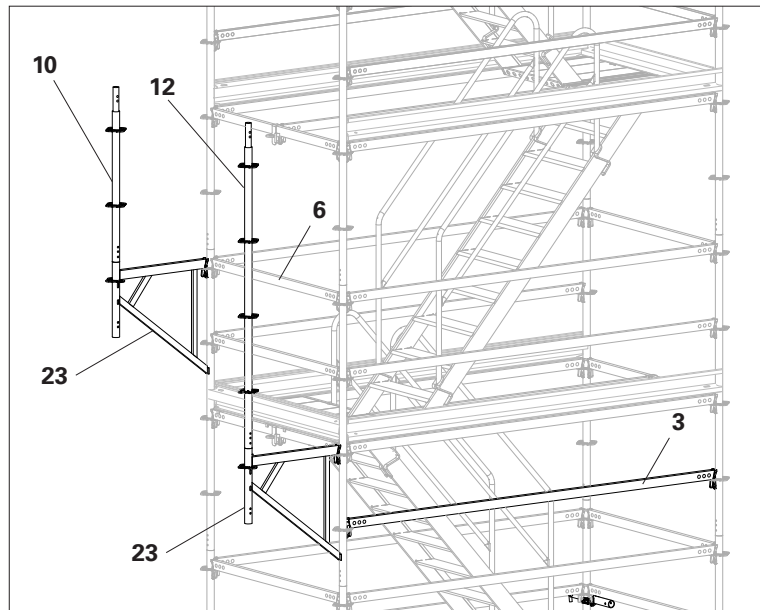

Fig. B8.03
3. Add Horizontal Ledger UH-2 300 (**3**) 50 cm beneath the suspension of the console bracket, if not available. (Fig. B8.03)